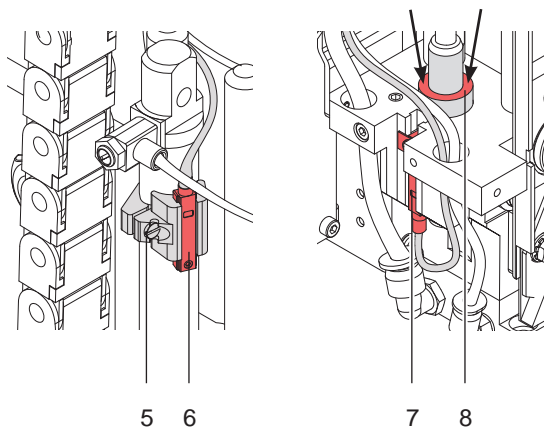

Figure 19 Sensor start position /
4. Pull down the pad (cylinder extended) → Sensors start position (6) deactivated
5. Press the pad in the maximum high position. (cylinder retracted) → Sensor start position (6) activated
6. Pull down the pad and press the adapter bolt (8) into the pad assembly. (▷ Figure 19 right) → Sensor labeling position (7) activated
7. Let go the adaptor bolt (8) that it is pressed by feather-by virtue of back → Sensor labeling position (7) deactivated